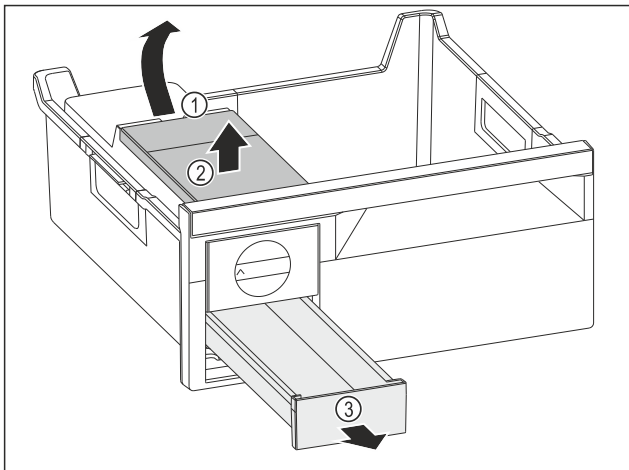

Fig. 140
- ▶ Removing the water tank: Lift the water tank by the recess Fig. 140 (1).
- ▶ Remove the water tank Fig. 140 (2) upwards.
- ▶ Remove the ice cube drawer Fig. 140 (3) to the front.